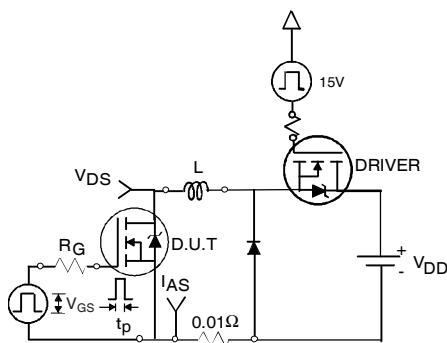

Fig 12a. Unclamped Inductive Test Circuit
- ③ Pulse width $\leq 1.0\text{ms}$; duty cycle $\leq 2\%$.
- ④ $C_{\text{oss eff.}}$ is a fixed capacitance that gives the same charging time as C_{oss} while V_{DS} is rising from 0 to 80% V_{DSS} .
- ⑤ Limited by T_{Jmax} , see Fig.12a, 12b, 15, 16 for typical repetitive avalanche performance.
- ⑥ This value determined from sample failure population, starting $T_J = 25^\circ\text{C}$, $L = 0.08\text{mH}$
3. Equation below based on circuit and waveforms shown in Figures 12a, 12b.